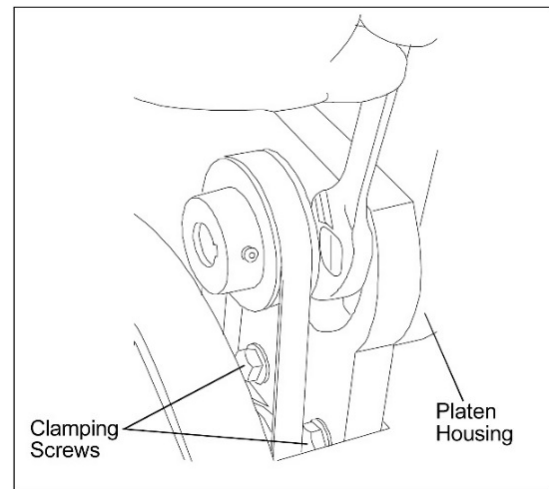

Figure 5: platen housing clamping screws
2. Remove four screws (52) and pulley cover (12).
3. Using an open end wrench, loosen two hex screws (13) (also refer to Figure 5).
4. Move platen housing to desired position. When platen housing is to be placed in horizontal position, lower platen housing onto stop screw (28) on machine base.
5. If the stop requires adjustment, loosen jam nut (29), adjust stop screw (28) to desired position, and tighten nut (29).
6. Tighten two hex screws (13).
7. Install pulley cover (12) and secure with four screws (52).